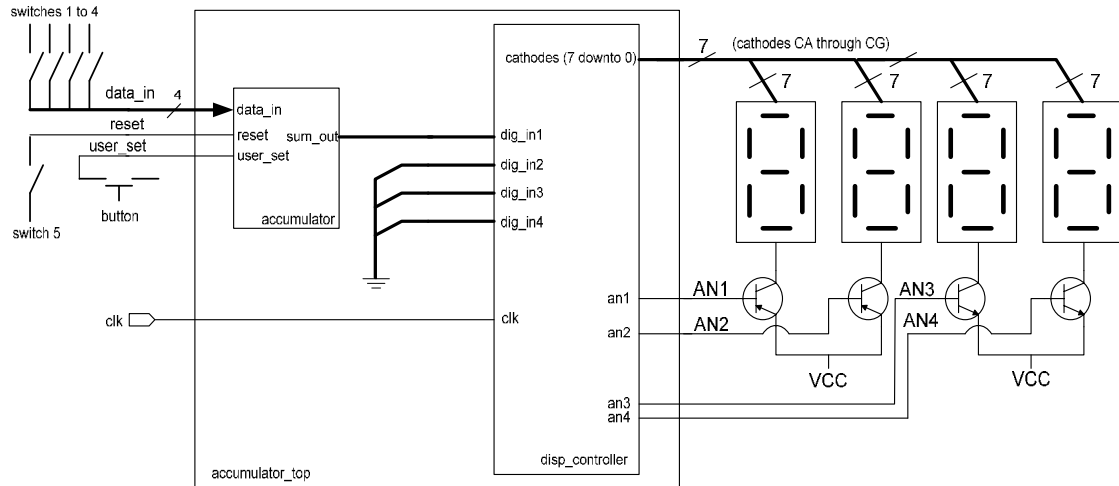

Figure 18; Accumulator implementation schematic.
The accumulator will be implemented in the D2XL board following the schematic shown in figure 18.
2. Analyzing disp\_controller.vhd description; Open the file disp\_controller.vhd by double clicking on it under **Sources in Project** window. This file describes the “disp\_controller” block shown in figure 18. It is a variation of the display controller we saw in previous labs. Each one of the inputs “dig\_in1” to “dig\_in4” will correspond to the digit displayed at each of the seven segment displays.
3. Creating a new source file; Following the same procedure as in step 1,2 and 3, go to **Project** → **New Source**, select **VHDL Module** and enter the name “top\_accumulator”. Define the VHDL source as a structural architecture and declare the inputs and outputs of the accumulator following the block diagram in figure 18. Click **Next** → **Finish**. The result will be a new source file where the skeleton is ready for you to fill it out with the description of the circuit.
4. Declaring components; Following logic diagram in figure 18, you will need two kind of components; an accumulator and a display controller. Remember that a component declaration goes between “architecture structural of top\_accumulator is” line and the “begin” line.
5. Connecting components; Component instantiation (section where you describe the connections between components) goes between the lines “begin” and “end structural” in the VHDL description of the system. Follow the logic diagram in figure 18 to describe the connections between the components and inputs/outputs of the system.